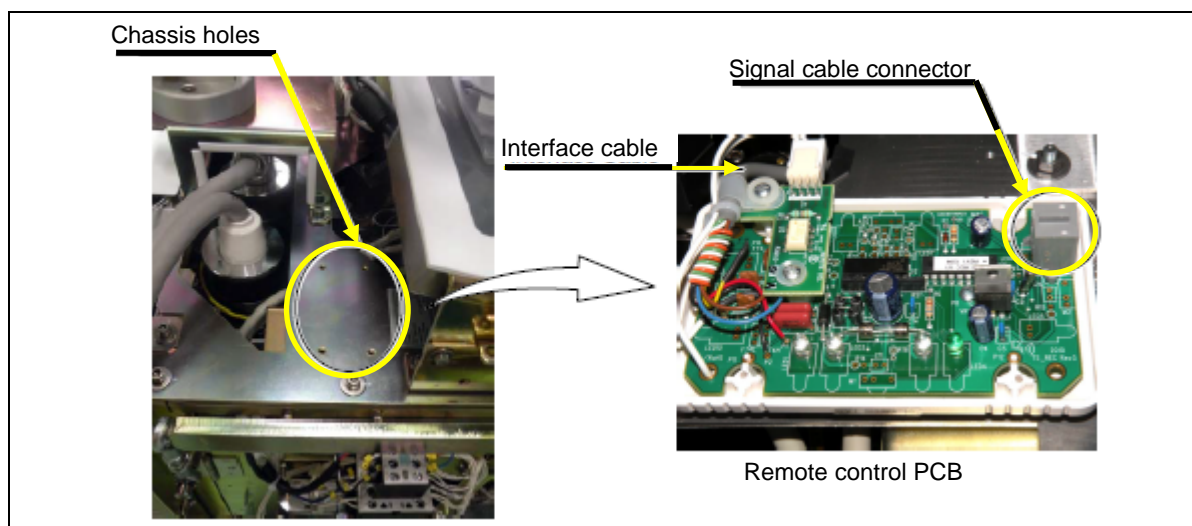

Figure 5
- (7) Install the remote control PCB on the chassis by fixing the four screws in the existing holes. See *Chassis holes* in the left-hand picture in figure 5.